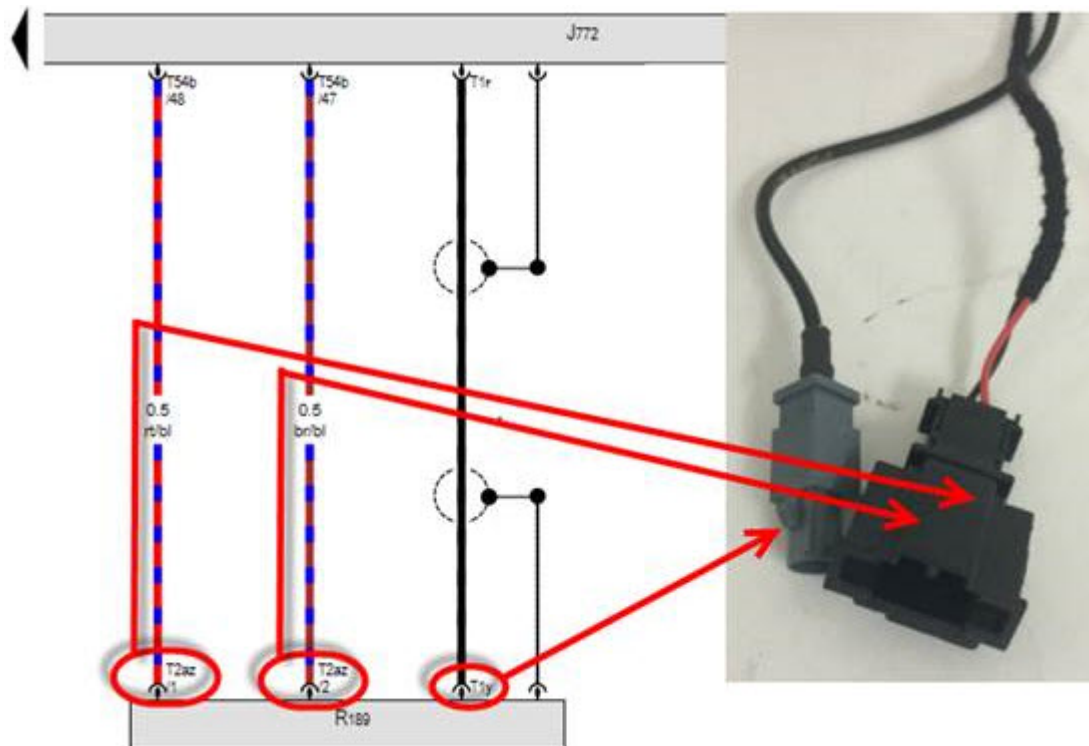

Figure 1. Check the wiring of the R189 reverse camera at connector T2az and T1y.
2. Check the wiring of the R189 reverse camera at connector T2az and T1y (Figure 1). Repair any loose connectors or pins, corrosion, or any other physical damage.